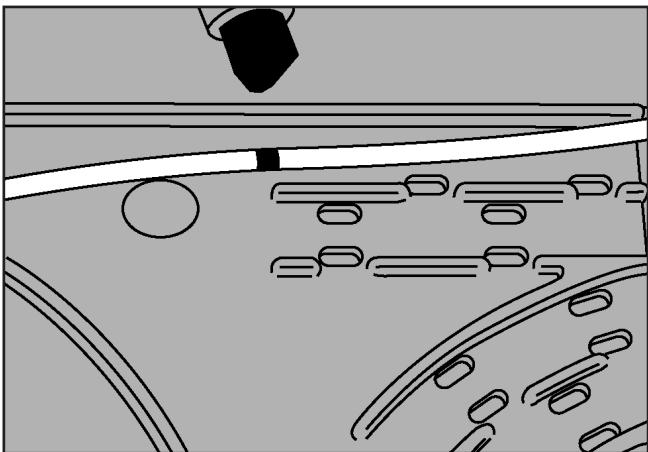

Figure 5
5. Mark the loose buffer tube at a point 50mm (2") inside the splice tray. (Figure 5)